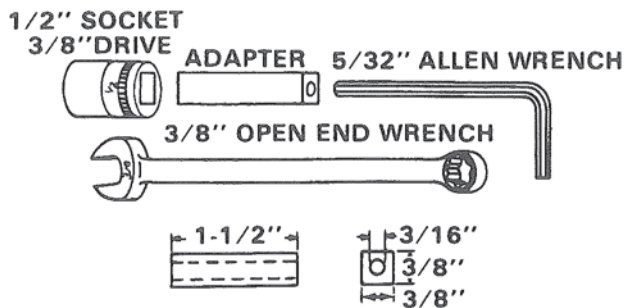

Figure 13. Pinion Position Tools.
Pinion position assures correct relation between solenoid and Positork drive. Pinion and ring gear damage may result if adjustment is not correct. Pinion position is accomplished in two (2) steps. Refer to Figure 13 for necessary tools.